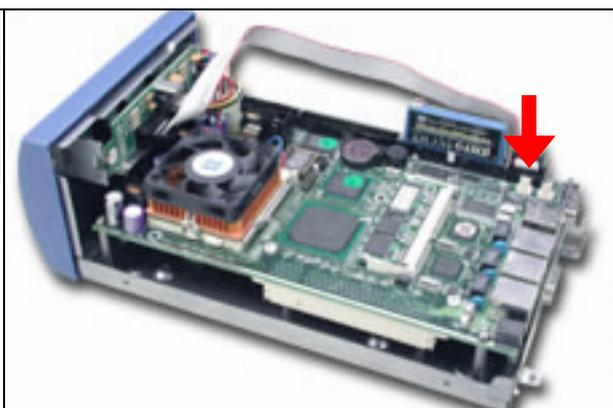

*Fig. 2-35 Reinstall after adding a PCI card*
3. Fix the board back in position with four screws (*Fig. 2-35*).